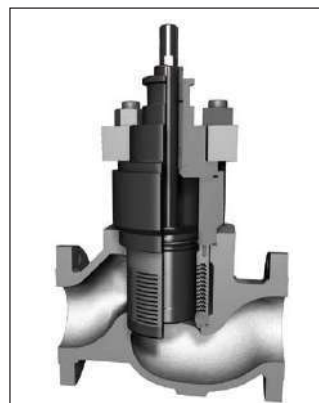

Figure 10
- 8.5.1. TigerTooth replaces the standard Mark One retainer with a welded or pinned, stacked-disk retainer, see Figure 10. Several of the parts, including the plug, seat ring and bonnet have dimensional differences from the standard Mark One design. Assembly and disassembly of the valve follows the standard procedures.